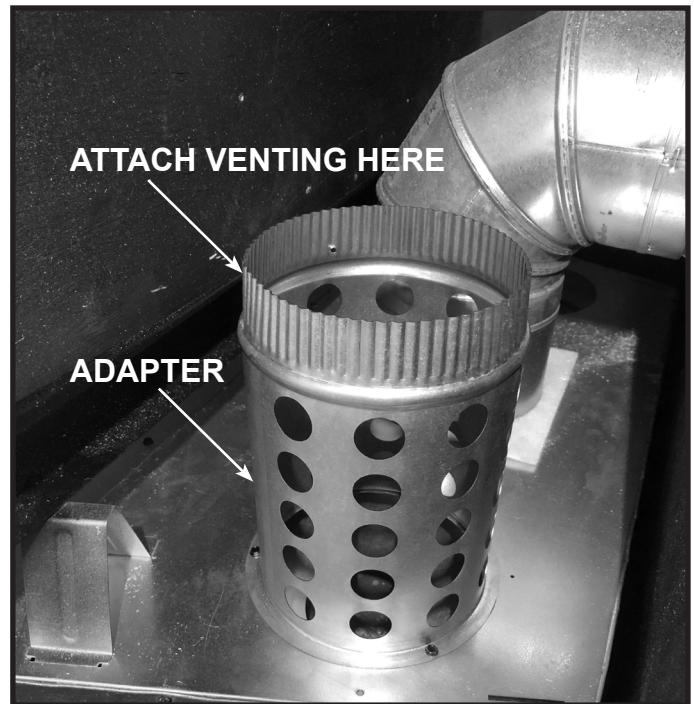

Figure 15 Adapter Prepared for Venting to be Attached
- Remove cap from the Passive Heat adapter and discard the cap. The venting for the Heat-Zone-Gas kit will attach directly on top of the Passive heat adapter. See Figure 15.
- Remove cap from the Passive Heat adapter and discard the cap. The venting for the Heat-Out-Gas kit will attach directly on top of the Passive heat adapter. See Figure 15.